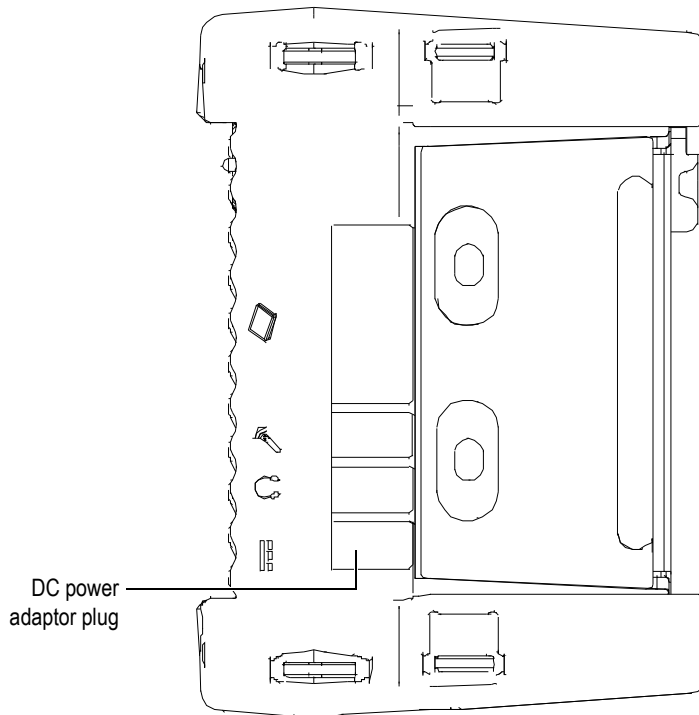

Figure 8-1 The OmniScan MX DC power adaptor plug
2. On the right-hand side of the OmniScan MX, lift the rubber seal covering the DC adaptor connector plug (see Figure 8-1 on page 91).
3. Connect the DC power adaptor to the OmniScan MX DC power adaptor plug (see Figure 8-1 on page 91).